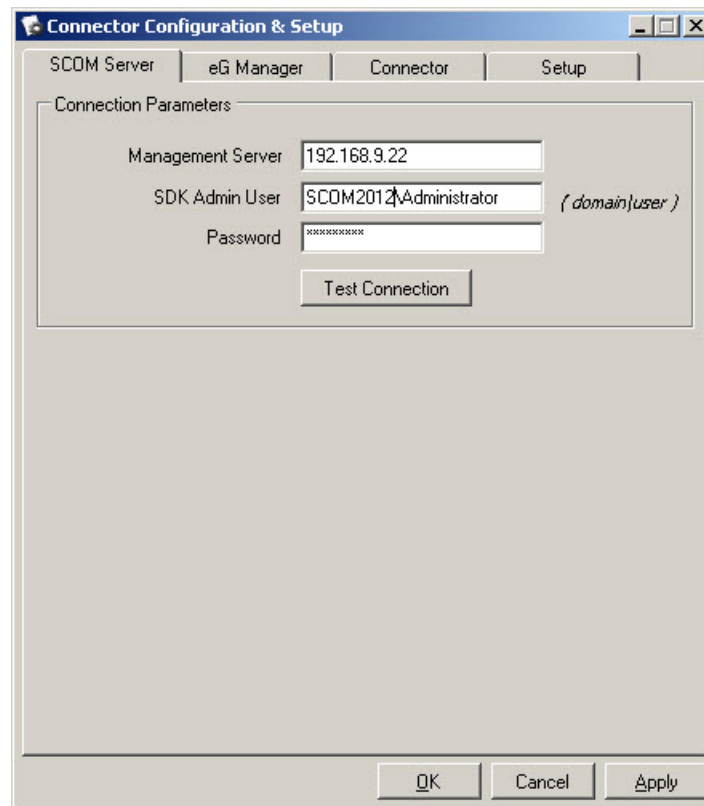

Figure 3.8: The SCOM Server tab page
1. Upon launching the tool, Figure 3.8 will appear with the **SCOM Server** tab page open.
2. If the eG manager is integrating with SCOM 2012/2016/2019, you can specify the IP address/host name of any management server in the environment in the **Management Server** text box of Figure 3.8.